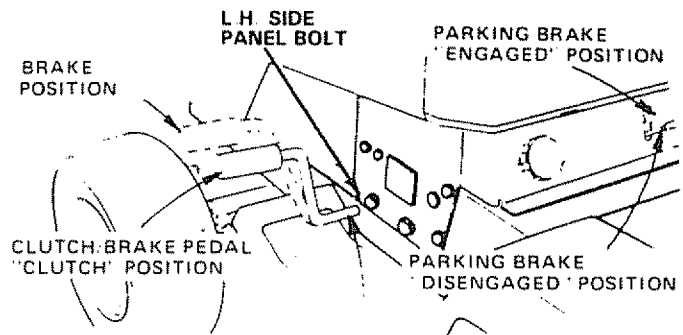

FIGURE 28
- Connect the other end of the cable to the L.H. side panel bolt (Fig 28) NOTE: KEEP AWAY FROM GAS TANK AND BATTERY.
- L.H. side panel bolt (Fig. 28).